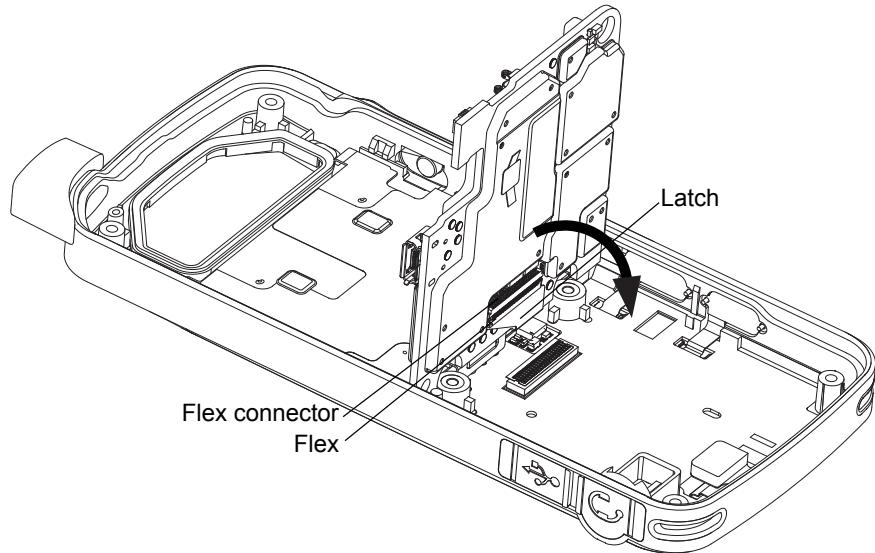

Figure 5-21. Flex connector tab reassembly
5. Attach the main PCB flex to the main PCB and secure it in place by latching the flex connector tab as shown in Figure 5-21.